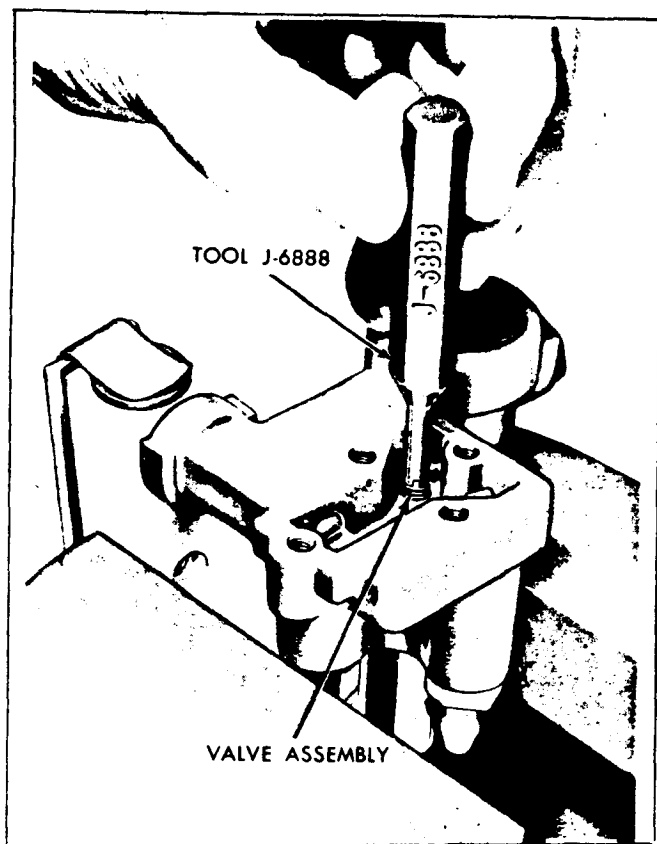

Figure 34—Replacing Typical Valve Core Assemblies
1. Remove inlet adapter and check valve assembly (28) from valve body (7). Remove outlet adapter (32). Remove adapter O-rings (27). Remove air line fitting gasket from adapters. Remove outlet adapter screen (34).
2. Remove four cover screws and washers (1) from cover (2). Remove cover and gasket (3).
3. Position valve with delay plug (26) at top. Unscrew delay plug from valve body (7). Drain silicone fluid from cavity. Remove plug O-ring (25). Unscrew piston pin (24) from control shaft (10).
4. Remove delay cover retainer (20), cover (21) and cover O-ring (22). Remove delay piston (23). Discard O-ring.
5. Remove valve lever screw and washer (4) from valve lever. Remove exhaust valve and intake valve lever (5) from valve body.
7. Remove intake valve core (6) with tool J-6888) as shown in figure 34.
8. Remove exhaust fitting (30) and screen